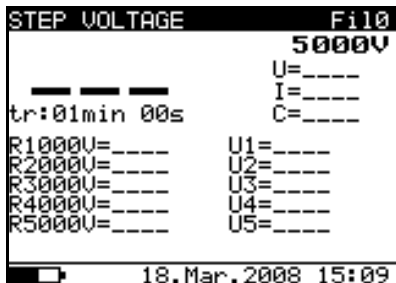
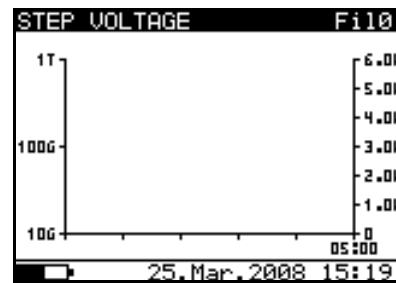

Fig. 34: Initial numerical screen
Fig. 35: Initial graphical screen
2. Select with arrow keys **▼** or **▲** the item “STEP VOLTAGE” on main menu and confirm with **SELECT** key. The screen of Fig. 34 is shown by the meter. In case of activation of Graphic R(t) option press arrow keys **▼** or **▲** to select the graphical screen of Fig. 35